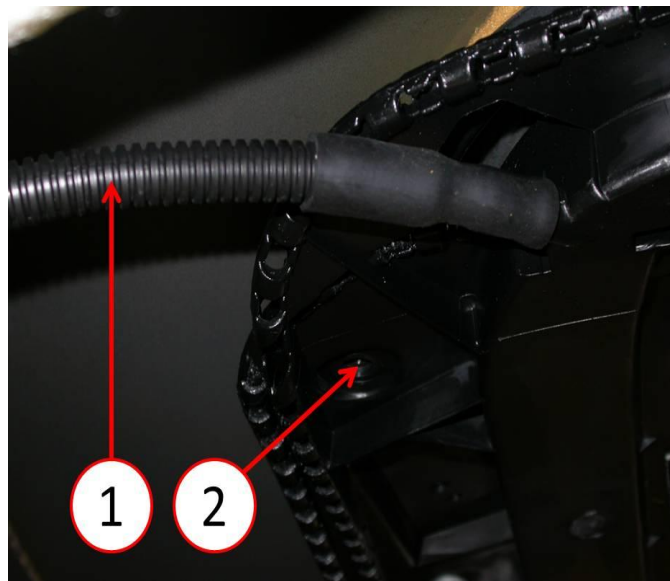

Fig. 1 Convoluted Drain Tube
3. If the water was leaking from the front and/or rear of the roof area and built before 12/10/2009 and is equipped with convoluted drain tubes (Fig. 1) proceed to Step #1 of the repair procedure. If the vehicle was built after 12/10/2009 proceed to Step #1 of roof seams and rear body plugs.